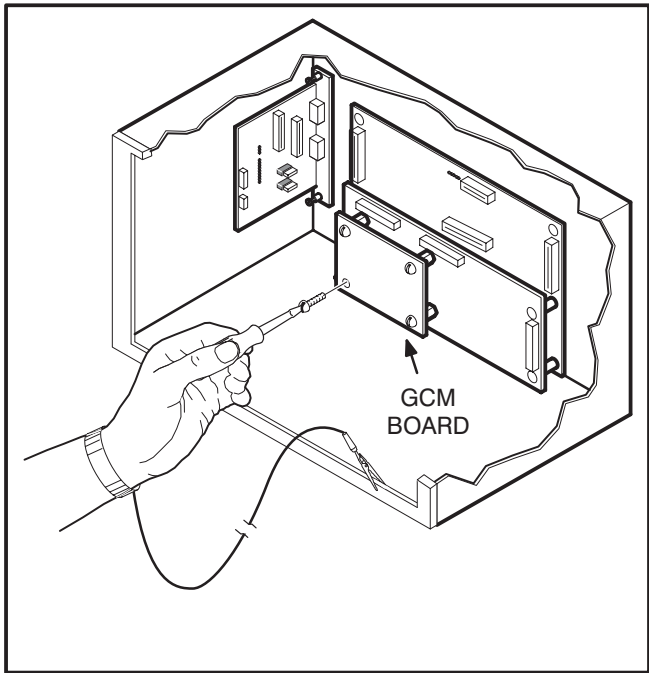

FIGURE 5-5. MOUNTING GCM BOARD
7. Mount the GCM board as shown in Figure 5-5, using the screws removed from the analog board. Tighten the mounting screws securely.